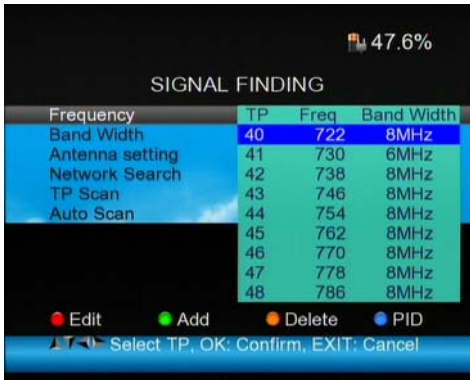

Figure8. TP Table Setup
- (1) Press <Up/Down> button to select Frequency option.
- (2) Press <OK> button to enter the Frequency list, press <Up/Down> button to select frequency one by one, press <Left/Right> button to select page by page. See Figure 8.